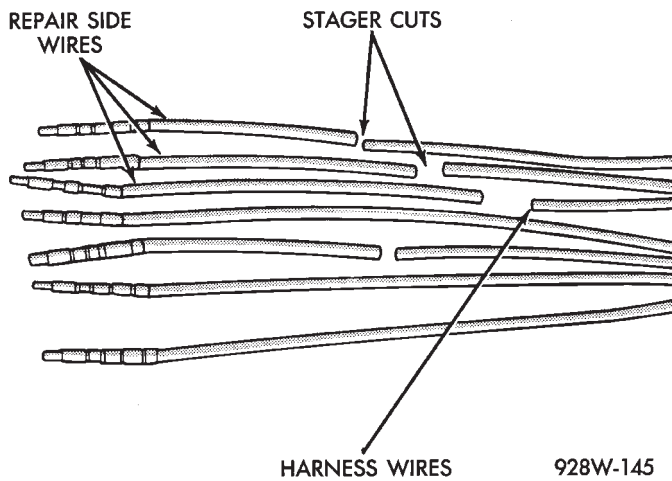

Fig. 10 Stagger Cutting Wires
- (1) Disconnect Battery.
- (2) Disconnect the connector being repaired from its mating half.
- (3) Cut off the existing wire connector directly behind the insulator. Remove six inches of tape from the harness.
- (4) Stagger cut all wires on the harness side about 1/2 inch apart (Fig. 10).
- (5) Remove 1 inch of insulation from each wire on the harness side.
- (6) Stagger cut the matching wires on the repair connector assembly in the opposite order as was done on the harness side of the repair. Allow extra length for soldered connections. Check that the overall length is the same as the original (Fig. 10).
- (7) Remove 1 inch of insulation from each wire.